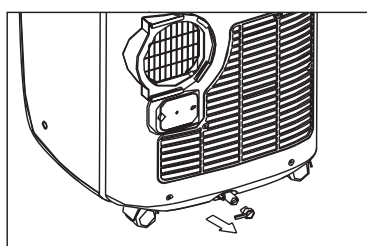

Fig. 24
Carefully move the unit to a drain location, remove the bottom drain plug and let the water drain away (Fig.24). Restart the machine until the "P1" symbol disappears. If the error repeats, call for service.
- Remove the plug from the bottom drain outlet, all the water in the bottom tray will drain out (See Fig.24).